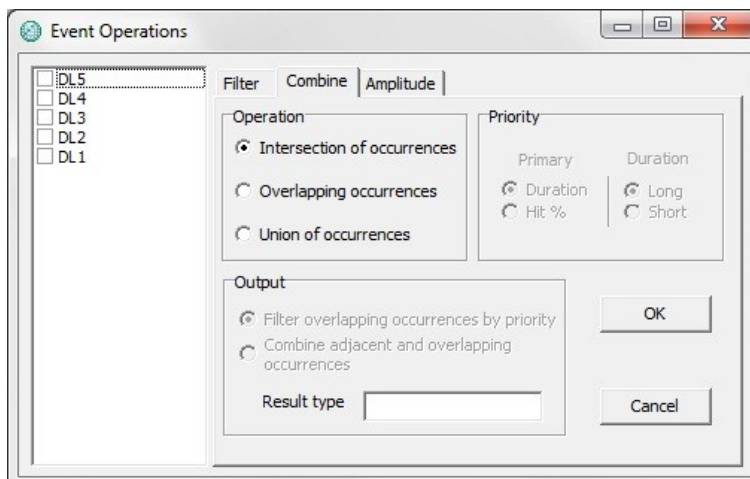

Figure 11.23 Combine: Intersection of occurrences
**Intersection of occurrences:** Check this option to find intersecting occurrences. A new event type with all the intersecting occurrences is created (see figure 11.23).